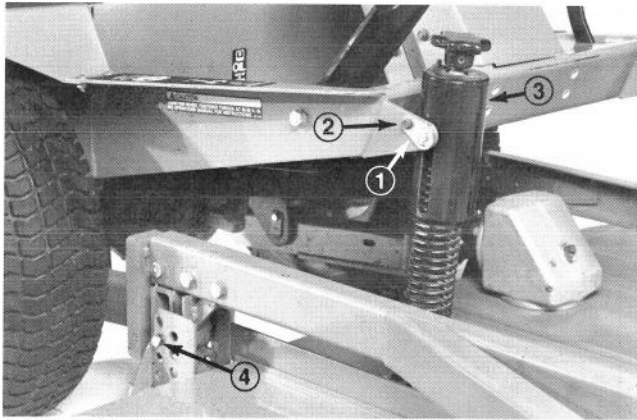

Figure 16
2. Disconnect counterbalance from traction unit, remove lock pins from brackets, separate spring tension assemblies from brackets and lay them down on the deck. Loosely secure lock pins to brackets to prevent losing them. (Fig. 16).
3. Lower cutting unit, remove pins (4) from height-of-cut brackets (Fig. 16).